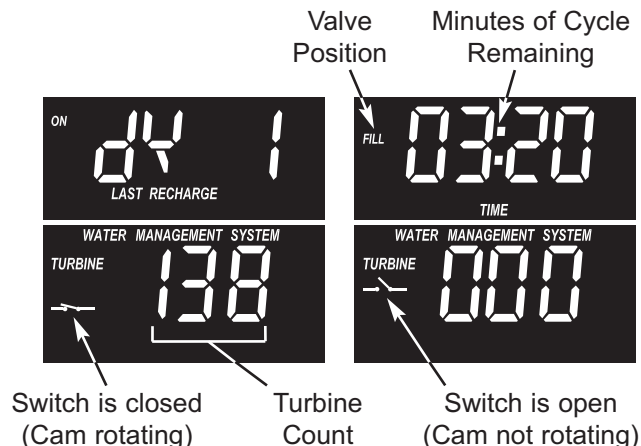

FIG. 38
1. Press and hold the DATA button for 3 seconds until one of the two displays in Figure 38 is shown, then release. The number in the top part of the display, after "dY", is days since the last recharge.
3. Symbols in the display indicate POSITION switch operation (See Figure 38).